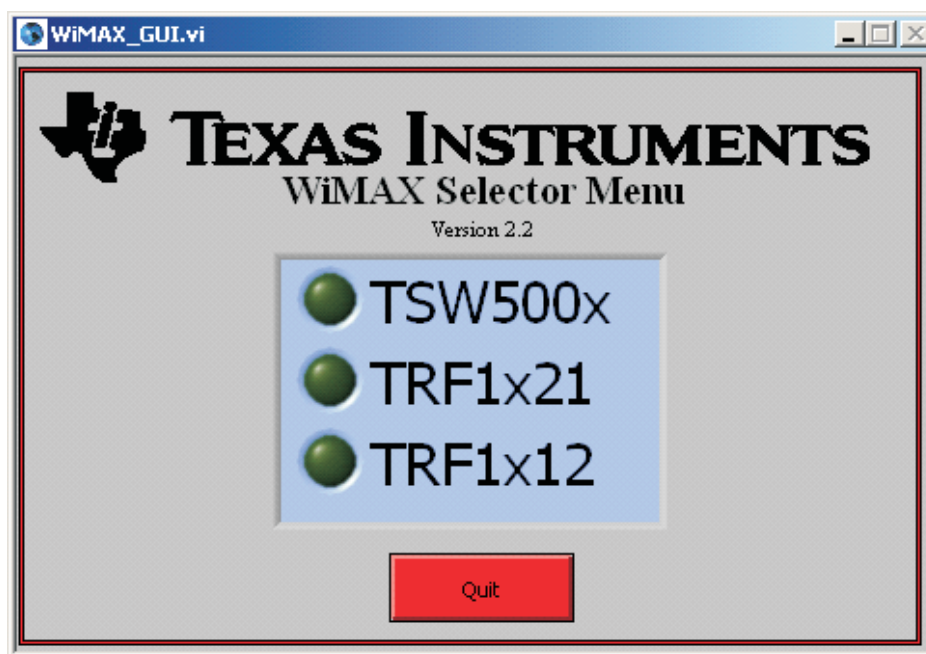

Figure 2. Main Window Software Screen
- The main screen appears as in Figure 2.